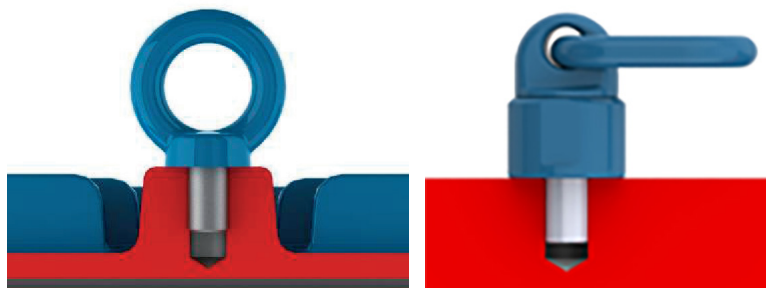
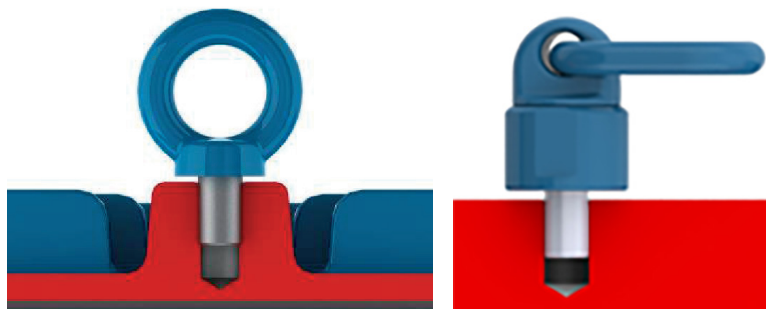

Figure 4.1: Correct tightening of the eyebolt
Figure 4.2: Incorrect tightening of the eyebolt
Before lifting the motor ensure that all eyebolts are tightened properly and the eyebolt shoulders are in contact with the base to be lifted, as shown in Figure 4.1 on page 14. Figure 4.2 on page 14 shows an incorrect tightening of the eyebolt.
1. Ensure that the eyebolts are tightened properly, as shown in Figure 4.1 on page 14.
1. Ensure that all eyebolts are tightened properly, as shown in Figure 4.1 on page 14.